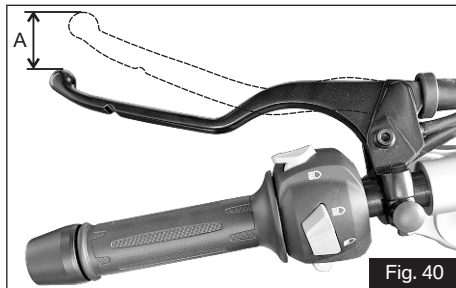

Fig. 40
- ◆ Measure the clutch free play (A) at the lever end as shown (ref. Fig 40).